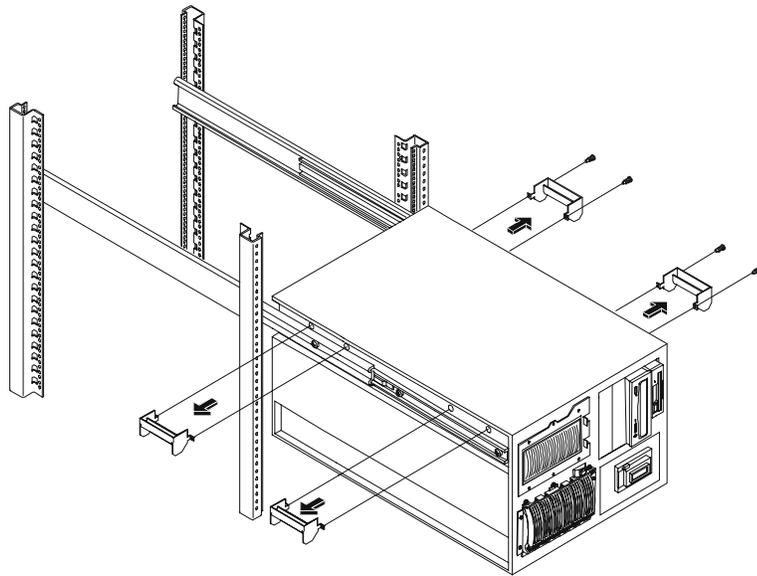

Figure 8-12. Removing Mounting Handles
9. Remove the two screws from each handle and remove the handles (see Figure 8-12).